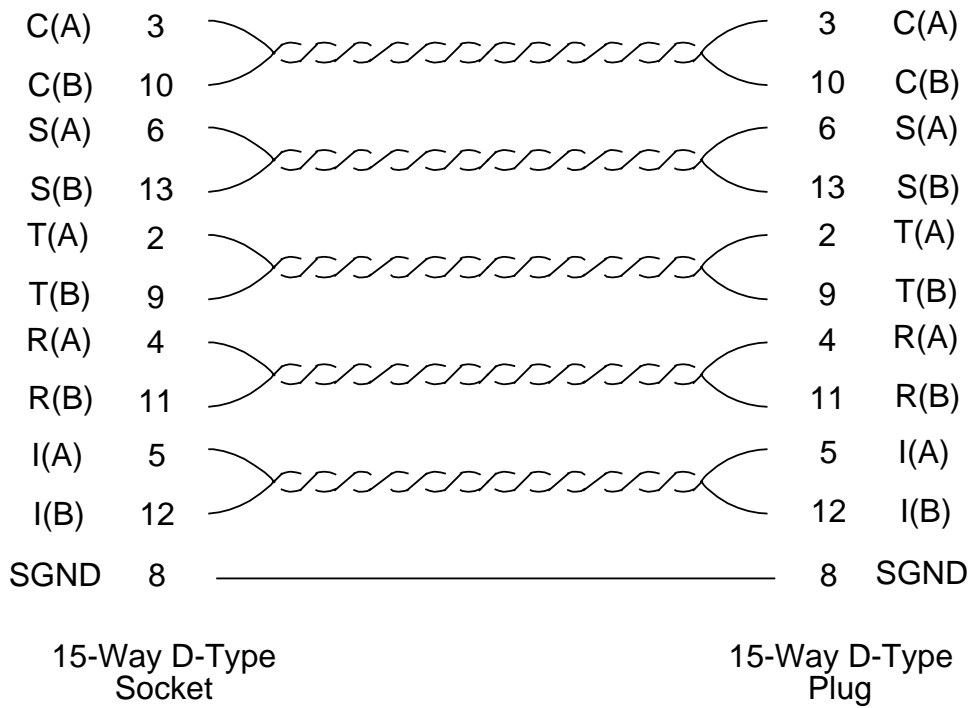

Figure B-9 8160 to X.21 DCE Composite Cable
- (7) RJ8 Application Card to X.21 DCE use cable X890-401011, Figure B-9.